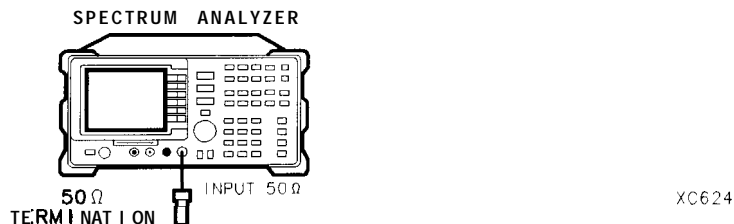

Figure 2-75. Residual Response Test Setup
1. Connect the termination to the spectrum analyzer input as shown in Figure 2-75.
**[MKR FCTN] MK TRACK ON OFF (ON)**